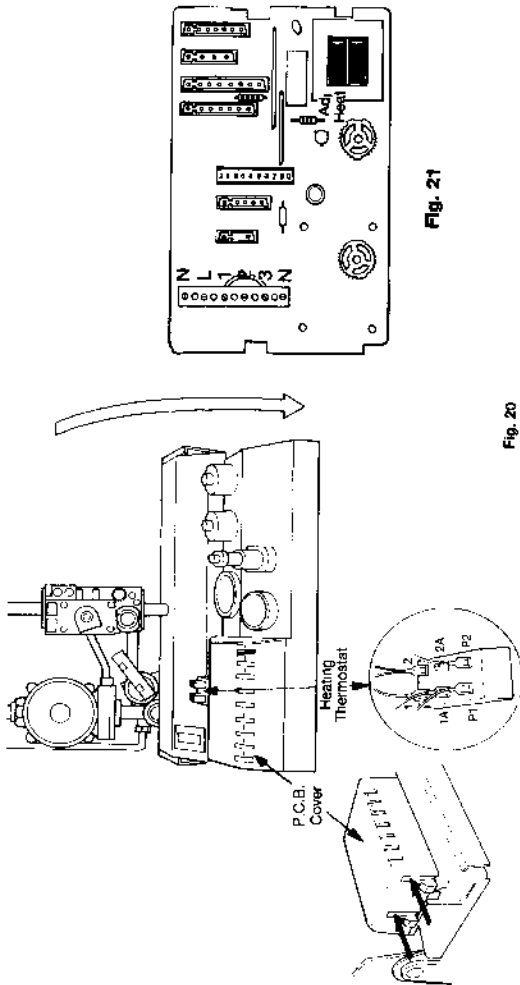

Fig. 20
Press in the sides of the printed circuit board cover (fig. 20) to release retaining clips, and lift cover off.
- 6.7.6** If the boiler temperature is above 45°C turn the thermostat down until the low flame is established. If low flame cannot be established in this way, turn off the electricity supply and transfer the cable on terminal 1 of the thermostat to terminal 1A (Fig. 20 shows location). Switch on electricity.